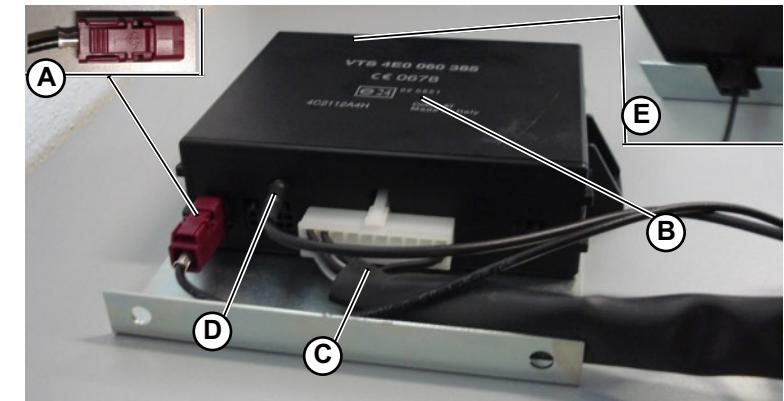

Fig.19
27. As show in the picture beside (A-Fig.19), assemble the end of the GSM antenna's wire (8-Fig.2) in the violet connector supplied with the kit.
28. Connect to the VTS ECU (B-Fig.19) all the necessary harnesses. In the front side, connect the connector of the VTS harness (C-Fig.19), the connector of the GPS antenna (D-Fig.19) and the one of the GSM antenna (A-Fig.19). In the rear part of the ECU, insert the connector of the Driver Cards antenna (E-Fig.19).